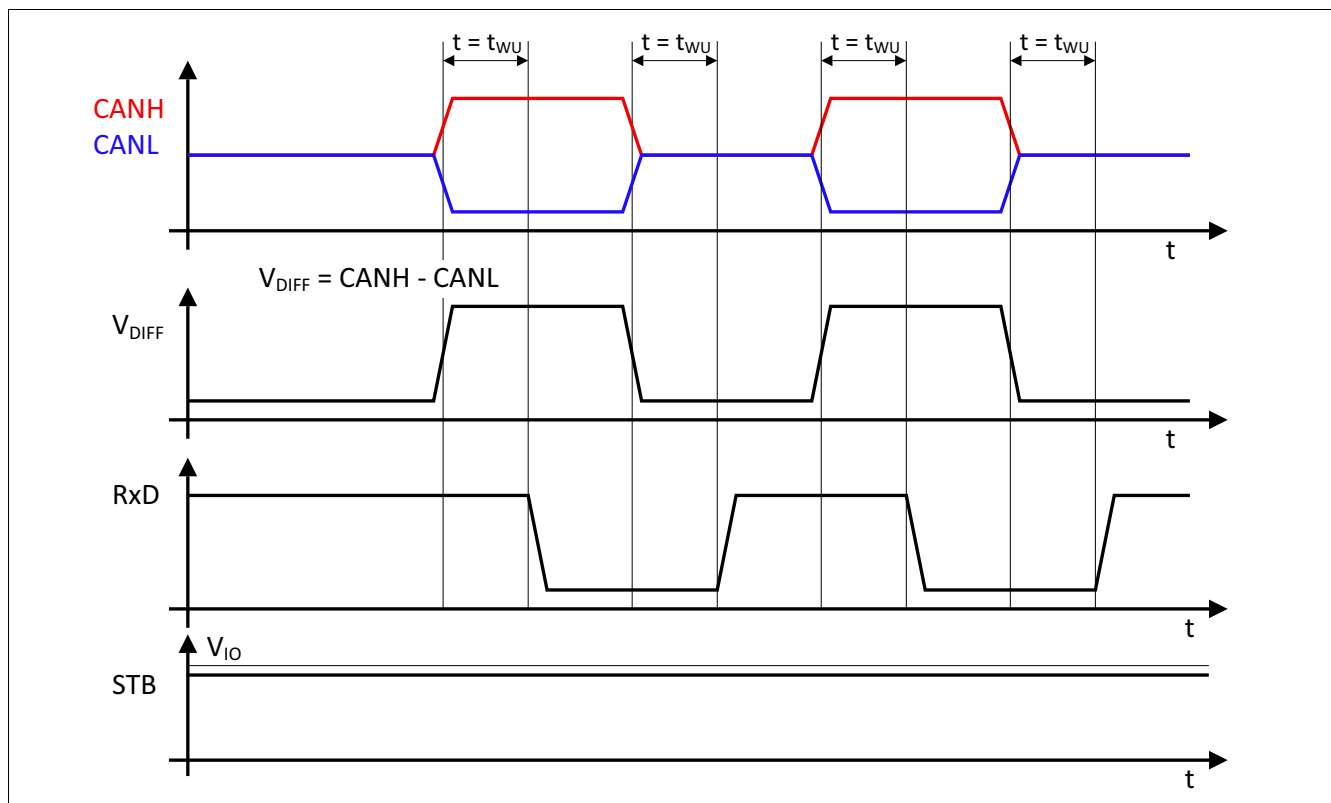

Figure 5 Wake-up pattern
- The RxD output is “high”, in case no wake-up signal on the CAN bus is detected (see Figure 5).
- The RxD output toggles according to the wake-up signal on the CAN bus (see Figure 5).
CAN bus signals, dominant or recessive, with a pulse width above the bus wake-up time $t > t_{WU}$ are indicated on the RxD output pin (see Figure 5).